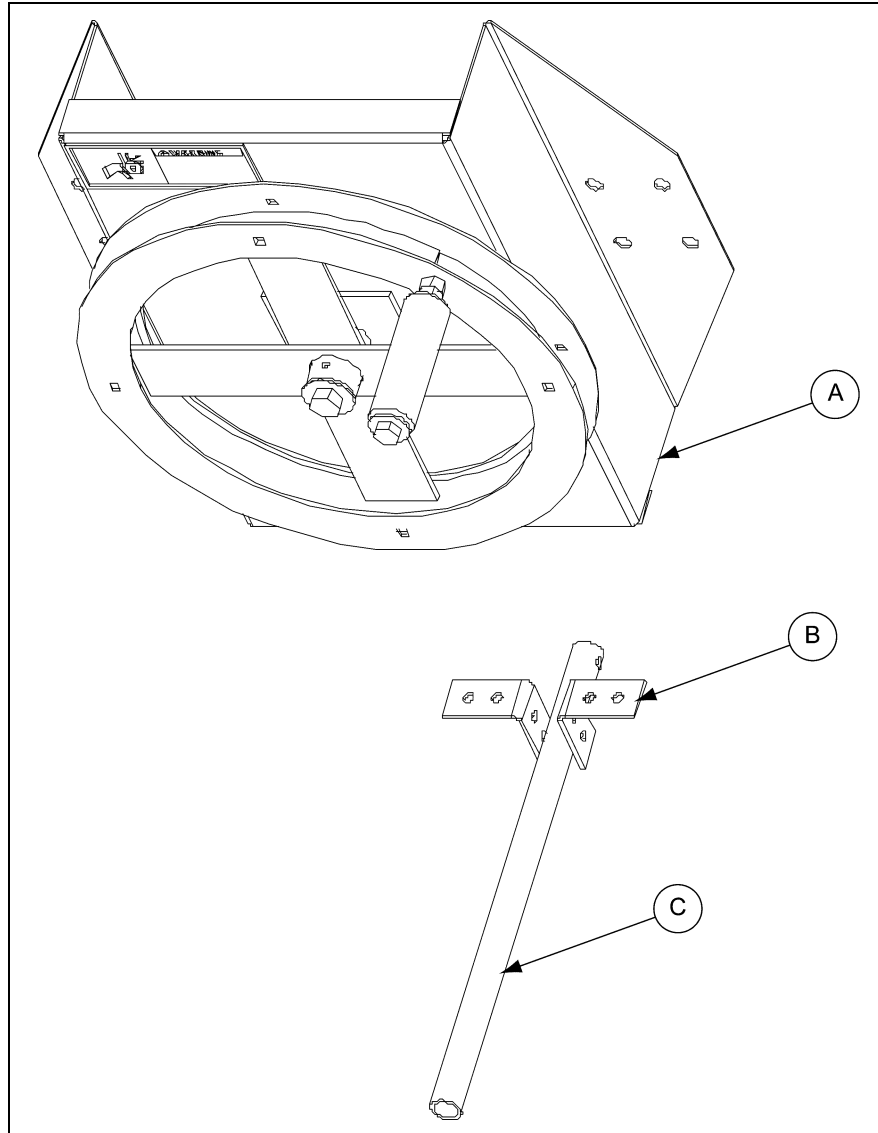

Figure 5G
Once the upper assembly has been installed, the control handle needs to be assembled to the lower cable wheel assembly. There are two (2) brackets (B) that mount to the bottom of the lower cable wheel assembly (A). These brackets are fastened with 5/16" x 1" bolts and whiz nuts. The control handle (C) is then mounted between the brackets using the second hole in the control handle and the end hole on the brackets. This is fastened using 5/16" x 2" bolt and lock nut. The hardware required is located in (GSB-DCG-HDW). This assembly is shown in Figure 5G below.